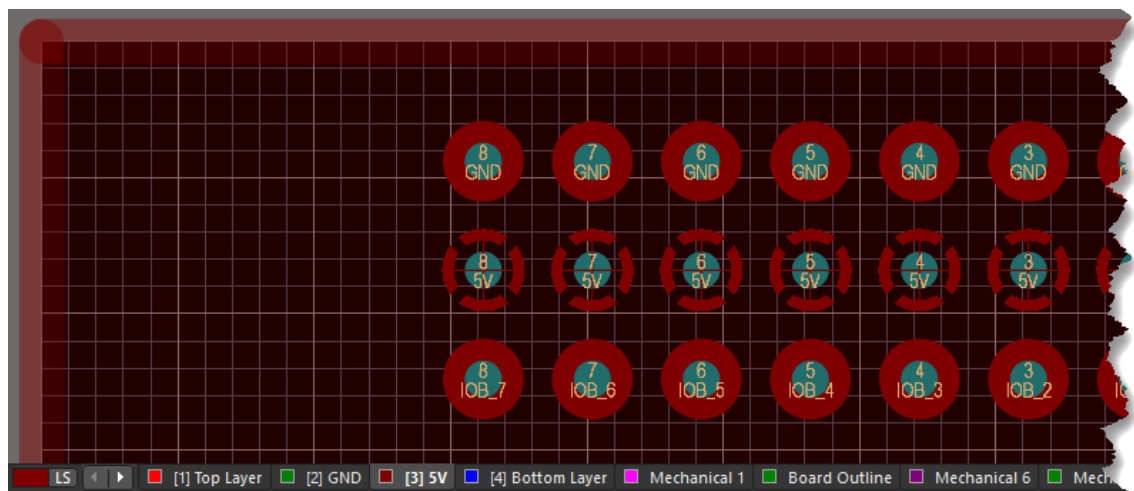

Figure 22. Relief Connect style for the 5V plane
68. Note that the pads connected to **5V** on the top left of the board should be connected with a relief connect to the power plane as shown in Figure 22.